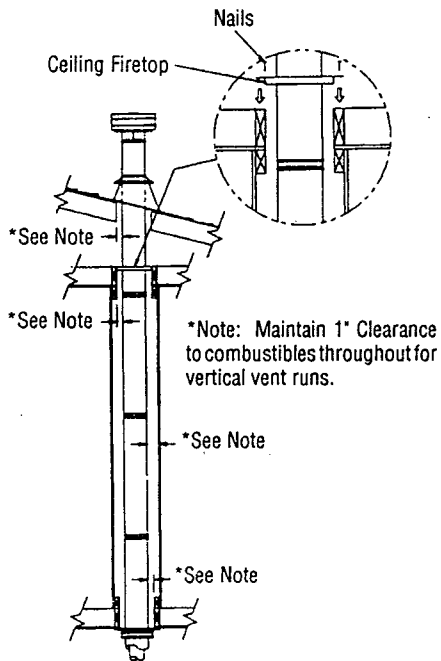

Figure 26
4. For multi-story vertical installations, a Ceiling Firestop (Dura Vent Part No. 963) is required at the second floor, and any subsequent floors (*Figure 26*). The opening should be framed to 10-inch x 10-inch inside dimensions, in the same manner as shown in *figure 21*.
5. Vent runs should never include more than three (3) 90 degree Elbows or six (6) 45 degree Elbows.